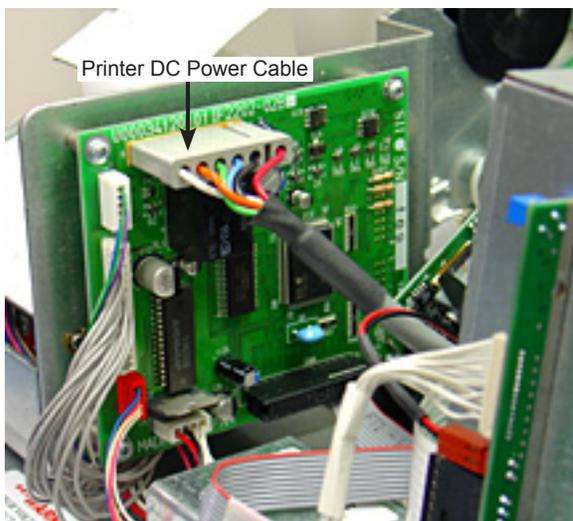

Figure 4. DC power connection at CN1 on the Printer Controller PCB
4. Refer to Figure 4. Disconnect the DC power cable for the receipt printer at CN1 (located on the printer controller PCB).